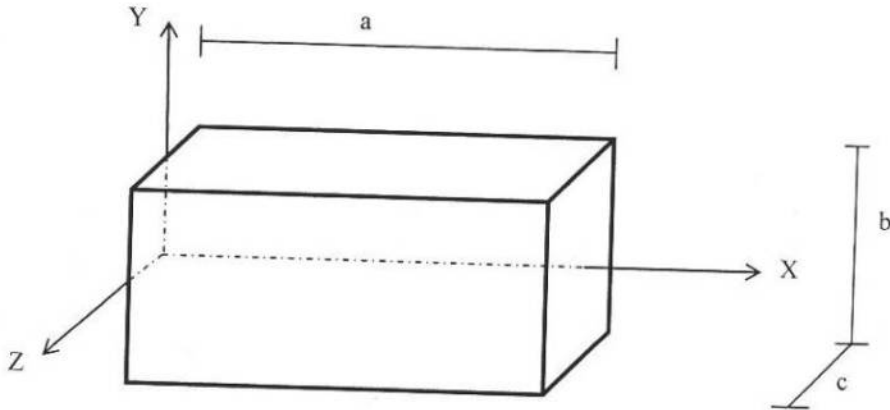

Figure 1
- 1) Determine the mass moment of inertia of the rectangular cube about Z-Z axis shown in Figure 1.